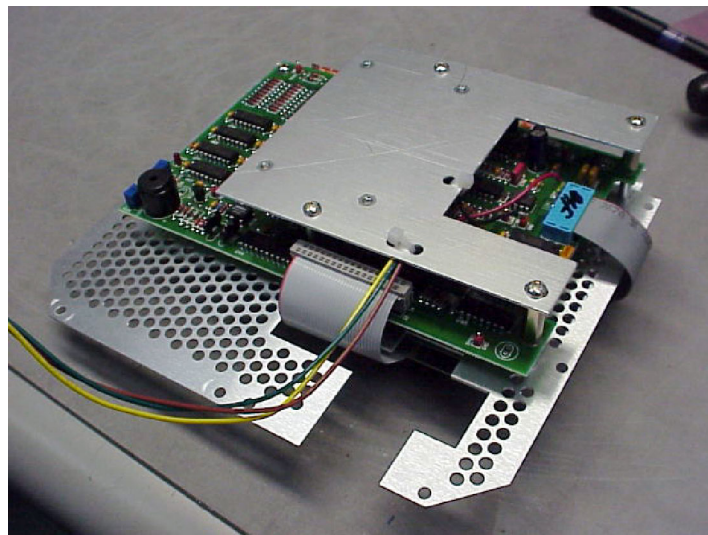

Figure 12: Attaching the Touch Panel Controller assembly to the Keypad board
- e. Position the Touch Panel Controller board and bracket assembly on the standoffs on the Keypad board. See Figure 12.